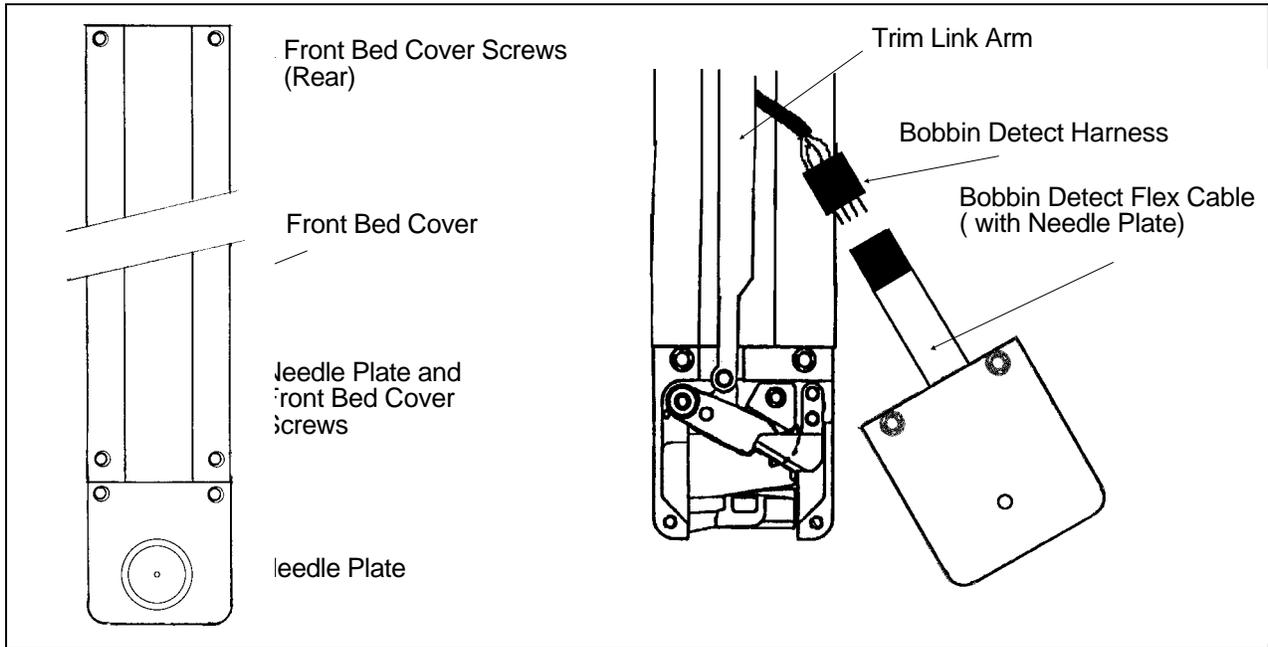

Fig. 2-6
1. Fig. 2-6 and 6a identifies those components that comprise the Trimmer; the Fixed Blade, Movable Knife and the Under Thread Presser. These components are covered by the Front Bed Cover and the Needle Plate, see inset in Fig. 2-6, remove the screws holding these covers. Unplug the Bobbin Detect Sensor located under the Trim Link Arm (see Fig. 2-6). You may test the Trimmer adjustments without the covers in place, but they must be installed to embroider.
2. Carefully lift the Trim Link Arm from the movable knife's Drive Pin. See Fig. 2-6. The Trim Connecting Link should come off easily. Be careful not to bend the Link Arm using too much pressure when you raise it up.